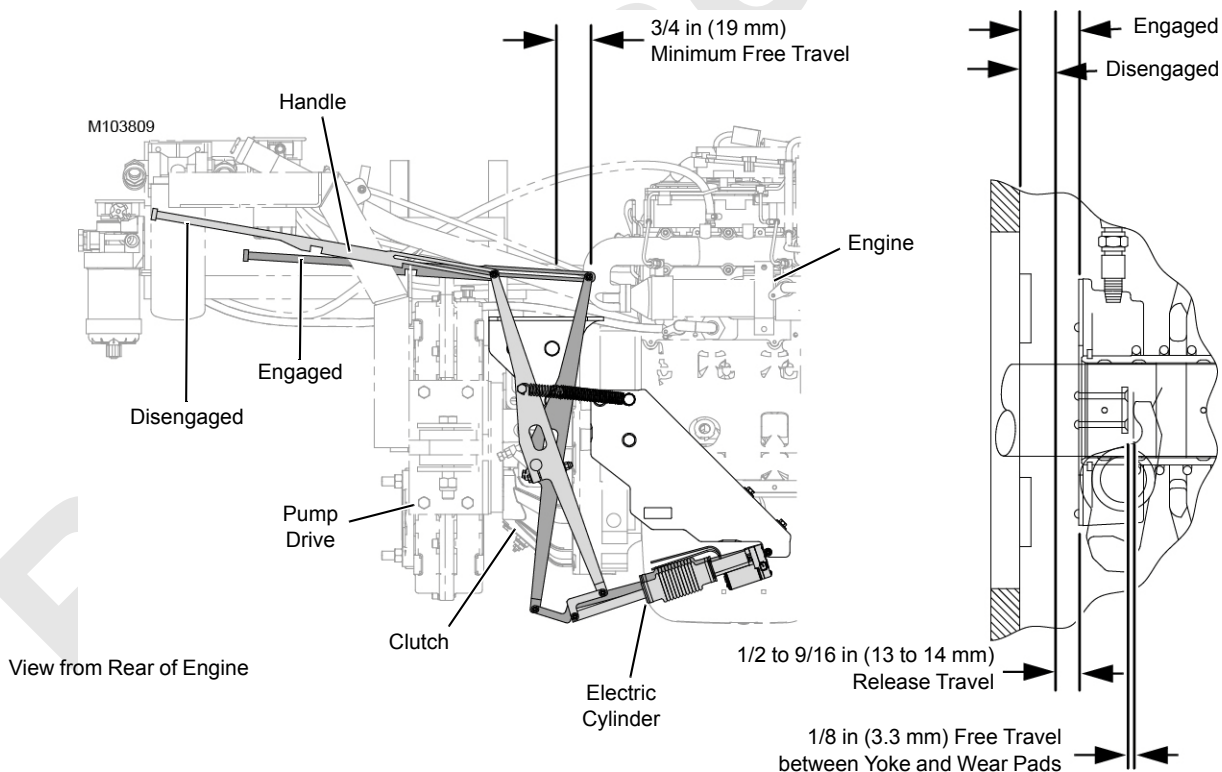

FIGURE 7-6
A disc-type manually operated clutch (see Figure 7-6) is mounted between the engine and the pump drive. The clutch allows the pump drive to be disconnected from the engine, thereby reducing engine load and making start-up easier. The clutch can be engaged or disengaged while the engine is running or off.
- c. Disengaging the clutch with the handle while checking for proper free travel. Free travel should be at least 3/4 in (19 mm) as shown Figure 7-6. Readjust the clutch when free travel decreases to less than 3/4 in (19 mm).